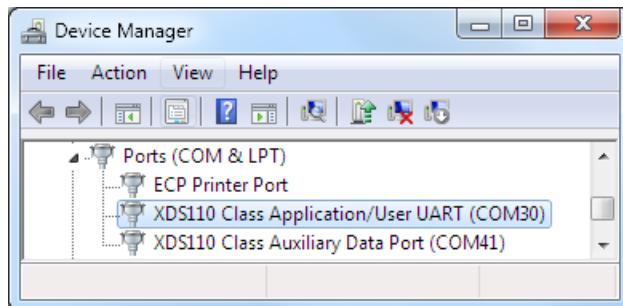
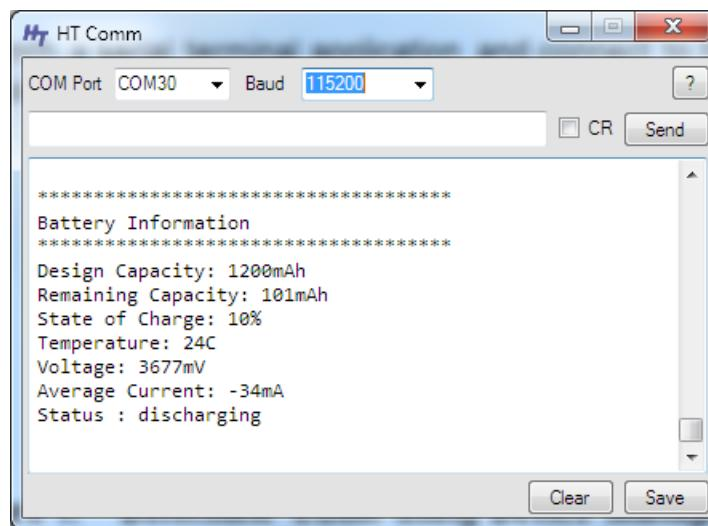

Figure 19. Determine COM Port Number Using Device Manager on Windows
Figure 20. Example Serial Terminal Configuration
4. Launch a serial terminal application and connect to the COM port for "XDS110 Class Application/User UART" at 115200 baud rate (see Figure 19 and Figure 20).